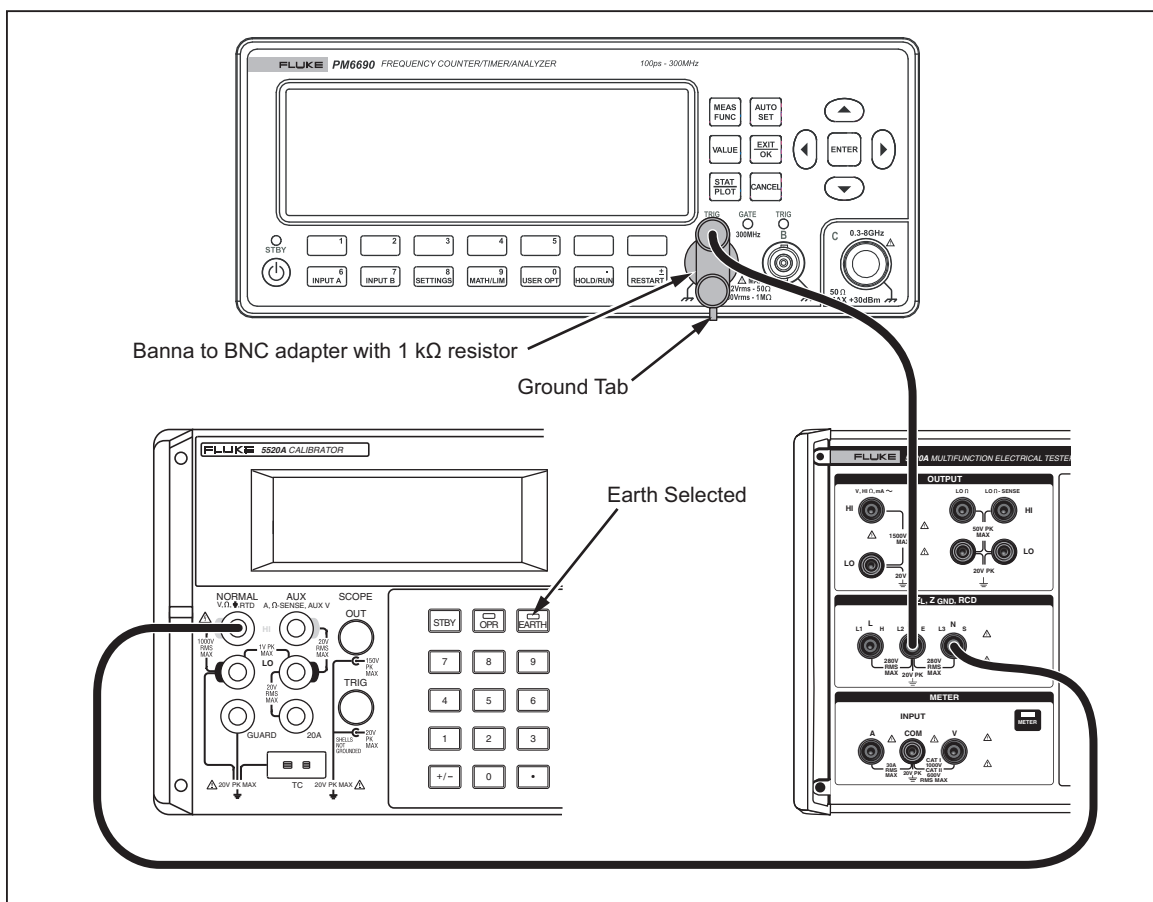

Figure 6-9. Trip Time Verification Connections
1. Connect the Calibrator, Fluke 5520A multifunction calibrator and Fluke counter/timer as shown in Figure 6-9.